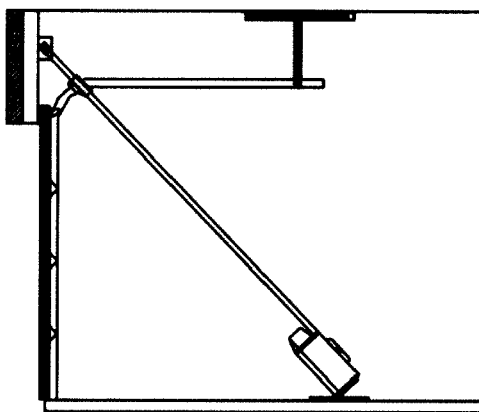

Fig 6
- Lift the Drive Rail Assembly up to the Header Bracket so that the Terminal Bracket sits in between the ears of the Header Bracket. (Fig 6)